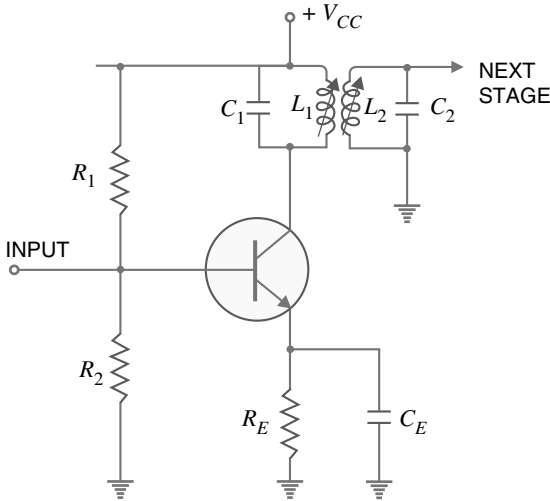

Fig. 13.17
Double tuned amplifiers are used for amplifying radio-frequency (RF) signals. One such application is in the radio receiver as shown in Fig. 13.17. This is the  $IF$  stage using double tuned resonant circuits. Each resonant circuit is tuned to \*455 kHz. The critical coupling occurs when the coefficient of coupling is